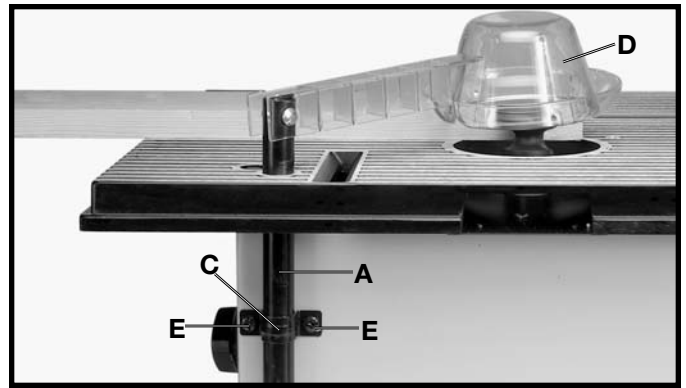

Fig. 31
An overhead cutter guard, shown in Fig. 31, is supplied as standard equipment with your Router/Shaper and should always be used for operations that require the fence to be removed. To install the overhead cutter guard, proceed as follows:
3. Insert rod (A) Fig. 31, of overhead cutter guard through hole in rear of table, as shown, and into bracket (C). **NOTE:** It may be necessary to loosen bracket (C) in order to insert rod (A). Adjust the height of the overhead guard (D) until the rim of the guard (D) lays flat on the workpiece and tighten two screws, both of which are shown at (E) Fig. 31. The guard raises as the workpiece moves against the cutter, and lowers at the completion of the cut.